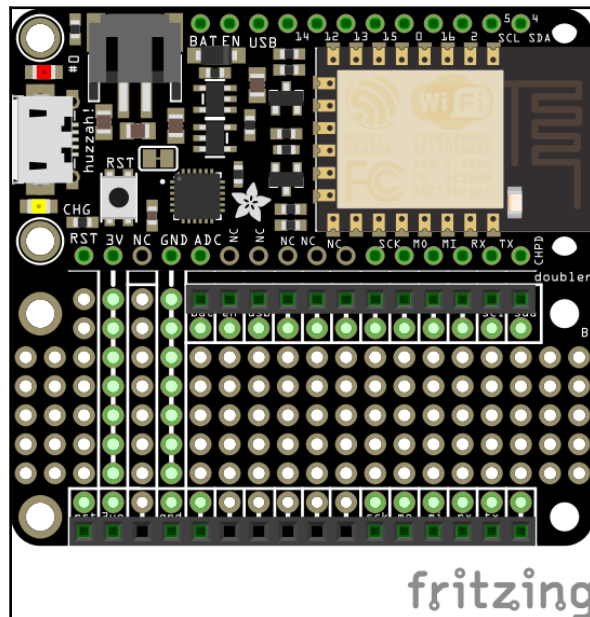

Figure 8.5: Placing the Adafruit Feather HUZAZH ESP8266 on the FeatherWing Doubler
2. Place the Adafruit Feather HUZAZH ESP8266 on the FeatherWing Doubler, as shown in the following figure (Figure 8.5):